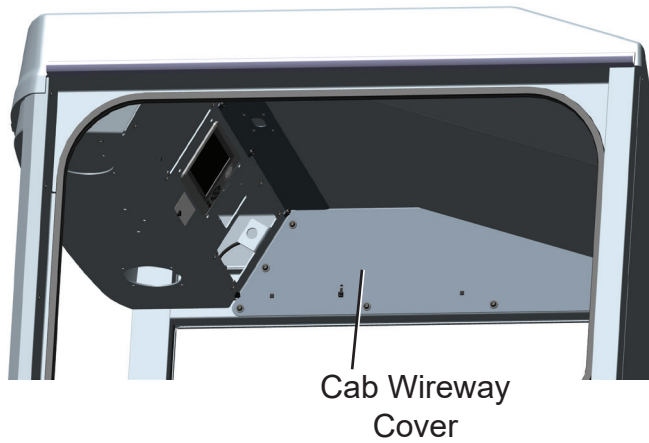

Figure 3
6. Remove the cab right-hand upper wireway cover, see Figure 3.